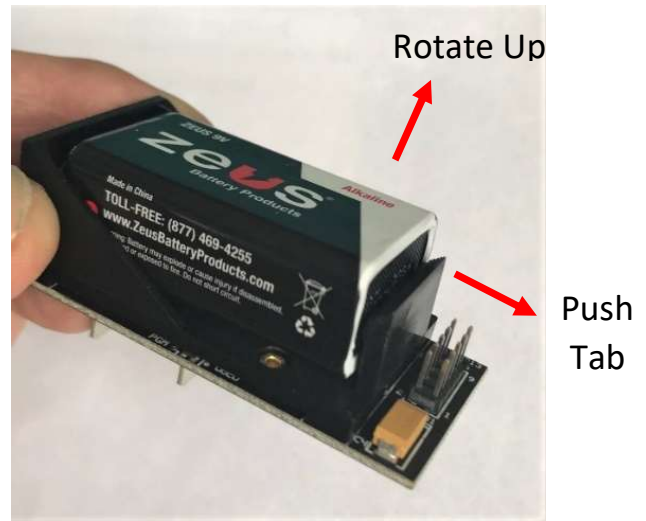

Figure 13 Remove battery
- Release battery by pushing rear tab outward and rotating battery up and out (Figure 13). Avoid contacting exposed pins.